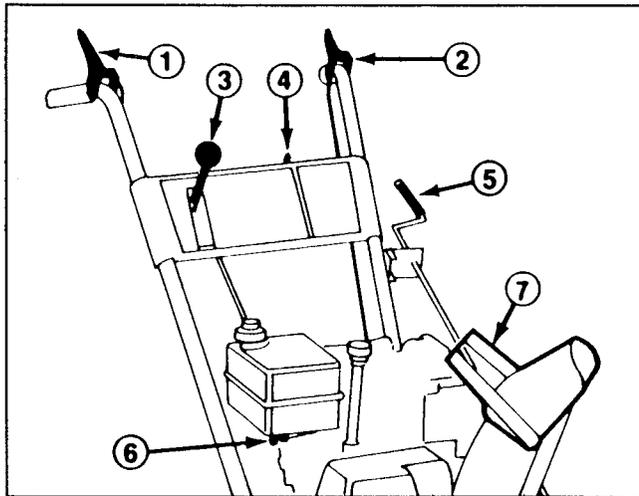
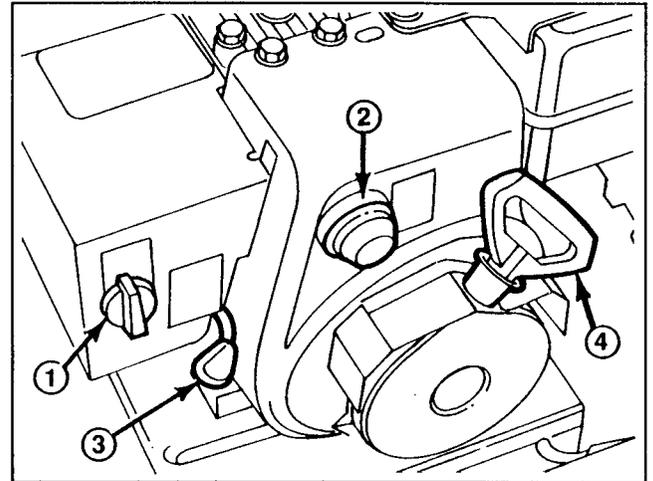
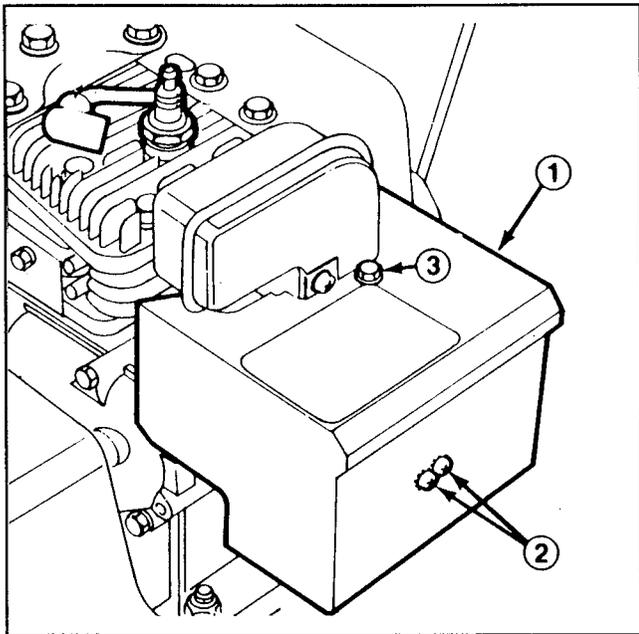

Figure 14
Figure 15
Figure 16
**Auger Drive Control** (Fig. 14)—Control has two positions: ENGAGE and DISENGAGE. To engage both auger and impeller, compress lever against right handgrip. To disengage, release lever.
**Traction Control** (Fig. 14)—To engage traction (wheel drive), lever must be compressed against left handgrip. To stop traction, release lever.
**Speed Selector** (Fig. 14)—The control has four positions: reverse, 1, 2 and 3. To change speeds, move gear shift to position desired. Lever will lock in notch at each speed selection. Use positions 1, 2 or 3 depending on snow conditions.
**Ignition Switch** (Fig. 14)—Switch has two positions: ON and OFF. Rotate key to ON position before starting engine with the recoil starter. To stop engine, rotate key to OFF.
**Throttle** (Fig. 15)—Moving the throttle upward increases engine speed.
**Choke** (Fig. 15)—Rotate choke to FULL choke position to start a cold engine. As engine warms up, move choke gradually to OFF.
**Primer** (Fig. 15)—Press primer to pump a small amount of gasoline into engine for improved cold weather starting.
**Fuel Shut-Off Valve** (Fig. 14)—Valve is located under fuel tank. Close valve to stop fuel flow from fuel tank and open valve to allow fuel to flow to the carburetor. Close valve when snowblower is not in use.
**Discharge Chute Control** (Fig. 14)—Rotate discharge chute control clockwise to move discharge chute to the left and counterclockwise to move chute to the right.
**Recoil Starter** (Fig. 15)—Recoil starter is on back side of engine. Pull recoil starter to start engine.
**Chute Deflector Handle** (Fig. 14)—Deflector handle is on top of discharge chute, and it is used to control height of the snow stream.
**Note:** If engine is operated when temperature is +40° F (4° C) or higher, remove carburetor heater box (Fig. 16). However, the heater box must be reinstalled when temperature falls below +40° F (4° C). To remove heater box:
- A. Remove (2) phillips screws and (1) hex head screw securing heater box in place (Fig. 16). Pull choke knob off choke rod (Fig. 15).
1. Move throttle (Fig. 15) to FAST.
2. Open fuel shut-off valve below fuel tank (Fig. 14).
3. Rotate choke (Fig. 15) to full choke position.
4. Rotate ignition key (Fig. 14) to ON.
6. Grasp recoil starter handle (Fig. 15) and pull it out slowly until positive engagement results; then pull vigorously to start the engine. Keep firm grip on starter handle and return the rope slowly.
7. After engine starts, immediately rotate choke (Fig. 15) to 3/4 position. As engine warms up, rotate choke to 1/2 position; then to OFF position. If engine falters, return choke to 1/2 position. When engine warms sufficiently, rotate choke to OFF position.
1. Release traction and auger drive controls (Fig. 14).
2. Move throttle (Fig. 15) to slow and rotate ignition key (Fig. 14) to OFF.